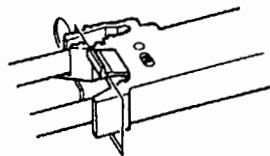

Fig 6.8
- (8) Push the cassette into the square hole on the right sideplate until it latches with a click. (Fig. 6.8)
- (9) When the slack ribbon falls below the wire dot printer, repeat the above procedure to remove ribbon slackening.